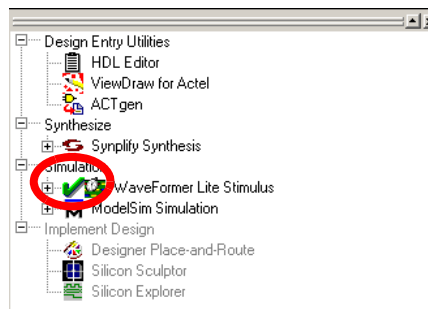

Figure 2-15. Check Mark in Waveformer Lite
3. Click **OK**. A check mark appears next to WaveFormer Lite in the **Process** window to notify you that there is a testbench file associated, as shown in Figure 2-15.